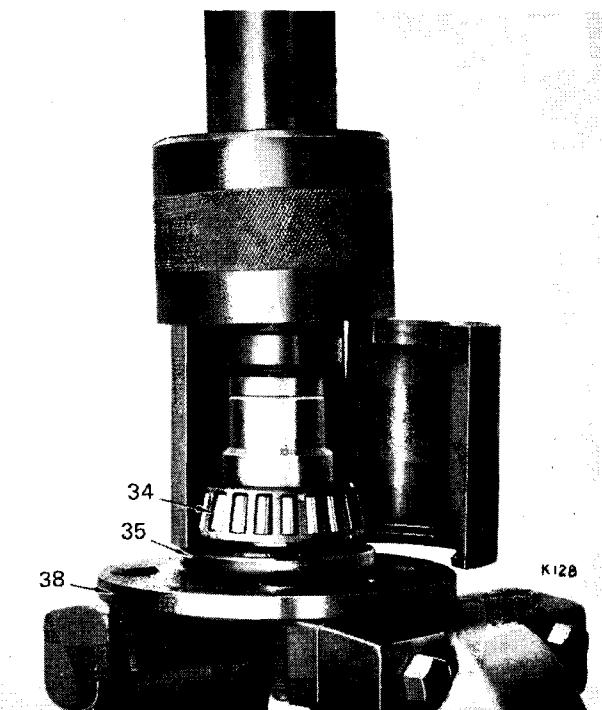

Fig. 67. Fitting Churchill tool around outer bearing
1. Push the outer seal (35) away from the bearing face and fit thrust button S 323.
2. Position tool S 323 with adaptors S 323-1 around bearing (Fig. 67). To avoid distorting the bearing cage, tap main collar supporting adaptors firmly into position before applying load.
3. Withdraw the outer bearing (34) and grease seal, drift out the outer bearing cup.